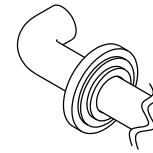

Fig. 1
- Step 1. Insert decorative flange. Make sure that underside is facing towards the end of the grab bar, insert cap onto end of grab bar. (Fig.1)